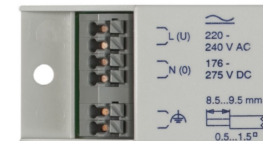
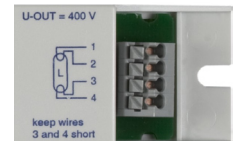

Bild 2/Fig. 2
Bild 3/Fig. 3
The mains connection has to be set to terminals L(U) and N(O). (Fig. 2) For lamp connections (1-4) see wiring diagram. (Fig. 3)